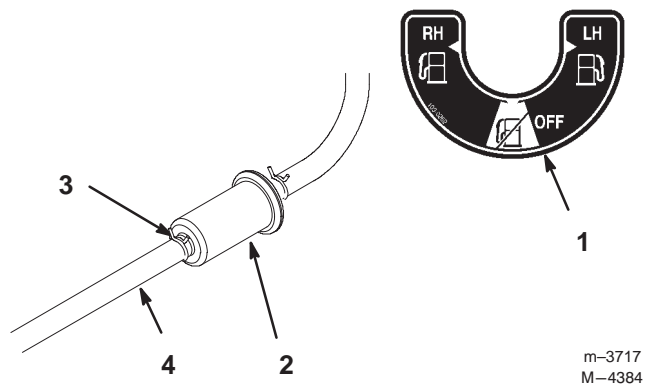

Figure 37
6. Install a new filter and move the hose clamps close to the filter (Fig. 37).
2. Close fuel shut-off valve (Fig. 37).
3. Loosen the hose clamp at the fuel filter and slide it up the fuel line away from the fuel filter (Fig. 37).
4. Pull the fuel line off fuel filter (Fig. 37). Open fuel shut-off valve and allow gasoline to drain into a gas can or drain pan.
5. Install the fuel line onto the fuel filter. Slide the hose clamp close to the fuel filter to secure the fuel line (Fig. 37).